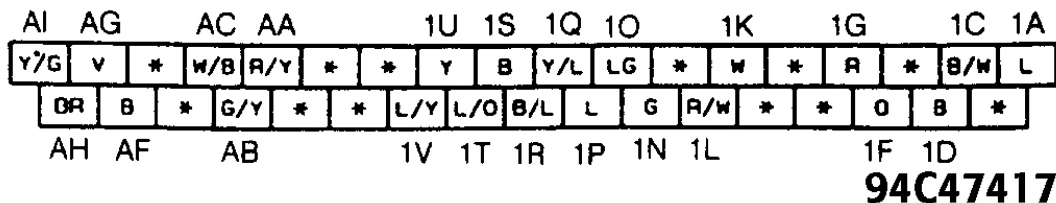

Fig. 13: Control Unit Harness Connector Terminals ID
Using a DVOM, check for continuity between ground and following ABS control unit connector terminals: 1D, 1S and AF. See **Fig. 13** . If continuity is not present, repair wiring harness.
(1) See **Fig. 13** to identify ABS control unit terminals.